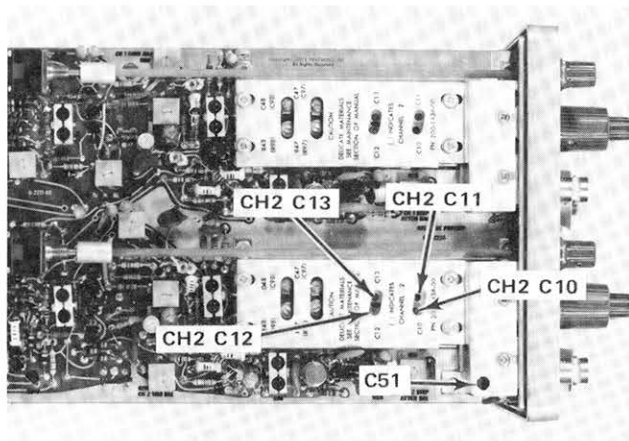

Fig. 5-20. Location of CH 2 volts/div compensation adjustments.
d. ADJUST—C51 (see Fig. 5-20) with the low-capacitance screwdriver, for best flat-top waveform.
g. ADJUST—Channel 2 C13 (see Fig. 5-20) for best flat-top waveform, and Channel 2 C12 for the best corner, with the low-capacitance screwdriver.
l. ADJUST—Channel 2 C11 (see Fig. 5-20) for best flat-top waveform, and Channel 2 C10 for the best corner, with the low-capacitance screwdriver.